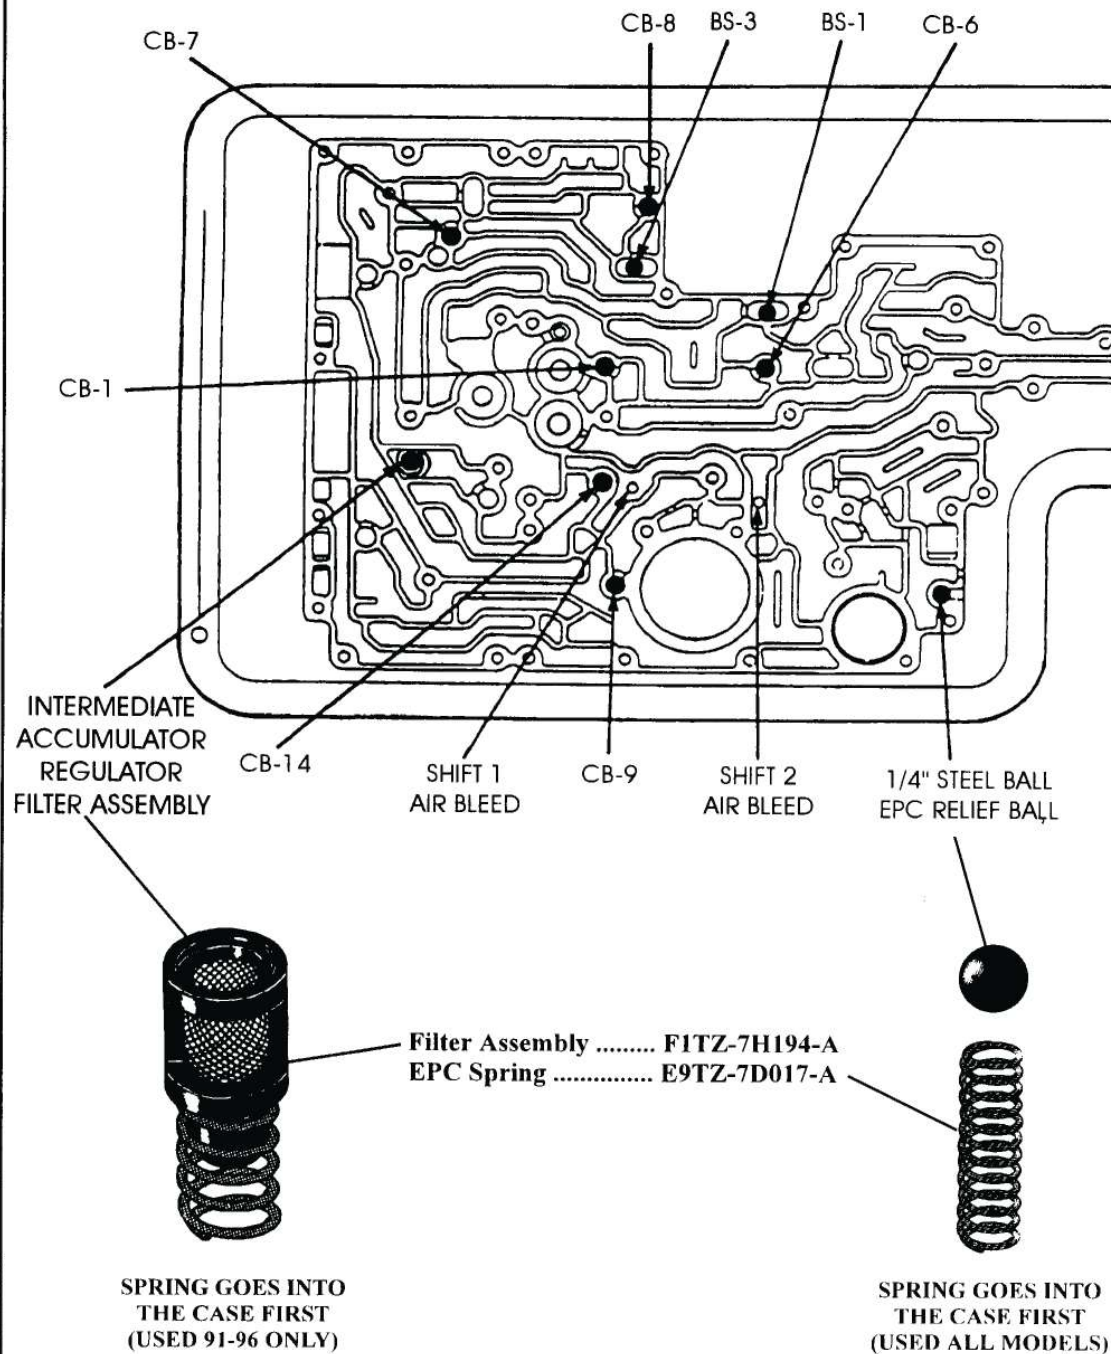

Figure 6
- All 1996-UP Models** - Requires **Eight** 5/16" rubber checkballs in the case, in the locations shown in Figure 6, and uses a 1/4" steel ball for the EPC blow-off, and the location is shown in Figure 6.
- (3) **SPACER PLATE GASKETS** - Have changed twice since the introduction in 1989.